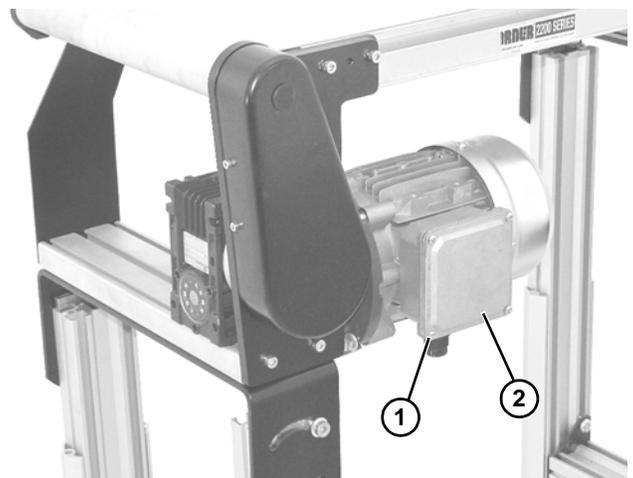

Figure 40
- Loosen terminal box screws (**Figure 40, item 1**) and remove cover (**Figure 40, item 2**).